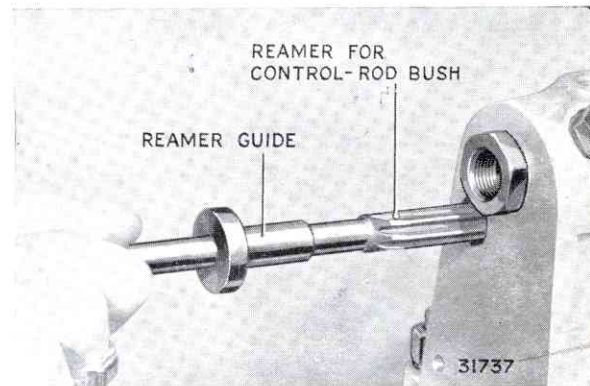

FIG. 70. REAMING CONTROL ROD BUSHES
3. New bushes will have to be line reamed after fitting with C.A.V. Tool No. ET.109 ET.110 (Fig. 70).